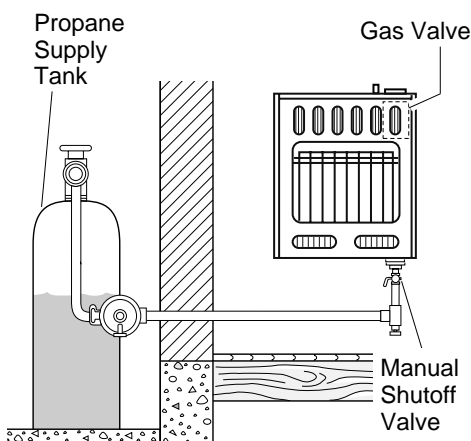

Figure 15 - Checking Gas Joints
3. Check all joints from propane supply tank to manual shutoff valve (see Figure 15, page 11). Bubbles forming show a leak.
4. Check all joints from manual shutoff valve to thermostat gas valve (see Figure 15). Apply mixture of liquid soap and water to gas joints. Bubbles forming show a leak.